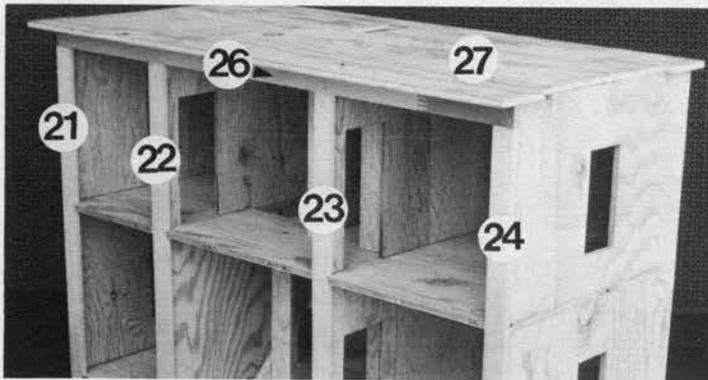

Fig. 12
STEP 11: Install attic floor 27, leave a 1/2 inch overhang at the rear and each end, and a 1 1/2 inch overhang at the front. Be sure attic access opening is in correct position (near stairwell opening). (FIGURE 12).